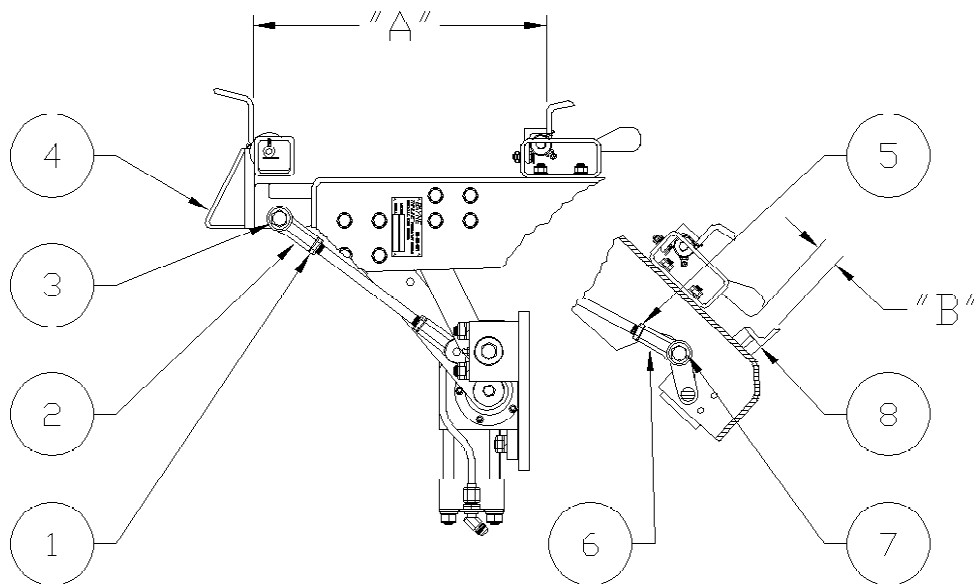

figure O-3
Check the distance (**A**) (*figure O-3*) between the saddle and slider latch when the lifter faceplate is in the **HORIZONTAL** position. Maintain this dimension at approximately **14 1/2"** for the proper "locking" of the cart to the lifter. To adjust the setting, loosen the jam nuts (1) on the spherical rod ends (2). Remove the bolts (3) that hold the rod ends to the slider latch (4). Screw the rod ends in or out as required to obtain the correct dimension at (**A**). Replace the bolts (3) and tighten the jam nuts (1).
Check the distance (**B**) (*figure O-3*) between the top of the fingers on the saddle box and the inside of the clamp bar when the lifter faceplate is in the **FULL DUMP** position. Maintain this dimension at approximately **7/8"** for the proper "locking" of the cart to the lifter. To adjust the setting, loosen the jam nuts (5) on the spherical rod ends (6). Remove the bolts (7) that hold the rod ends to the clamp bar (8). Screw the rod ends in or out as required to obtain the correct dimension at (**B**). Replace the bolts (7) and tighten the jam nuts (5).
CAUTION: The distances in figure O-3 are arbitrary figures based on information furnished by cart manufacturers. It is the responsibility of the owner / operator of this equipment to adjust these dimensions to be compatible with his specific application.